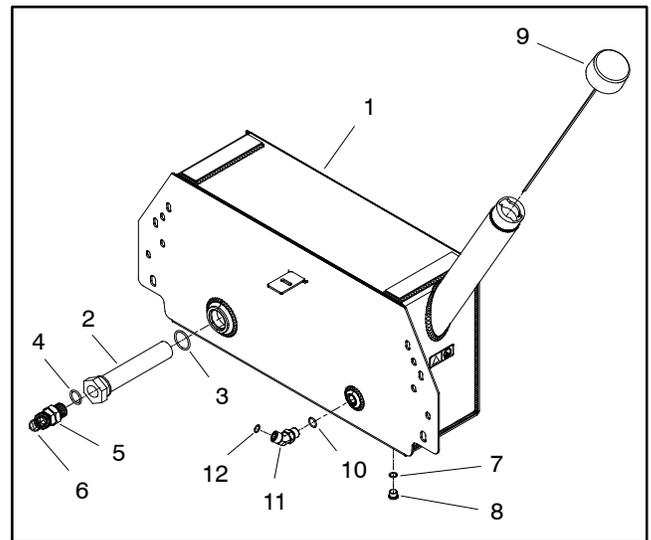

Figure 8
5. Place a suitable container under the hydraulic tank to collect hydraulic oil. Remove plug (item 21) from bottom of tank and drain hydraulic tank. Discard O-ring from plug.
7. Remove two (2) flange head screws (item 22) and flange nuts (item 2) securing the hose bracket to the hydraulic tank. Support the hose bracket and attached hydraulic hoses to prevent the assembly from falling.
9. Remove four (4) flange head screws (item 3) and flange nuts (item 12) that secure the hydraulic tank to the machine.
11. If fitting removal is necessary, mark fitting orientation to allow correct assembly. Remove fittings and strainer from hydraulic tank (Fig. 8). Discard removed O-rings.